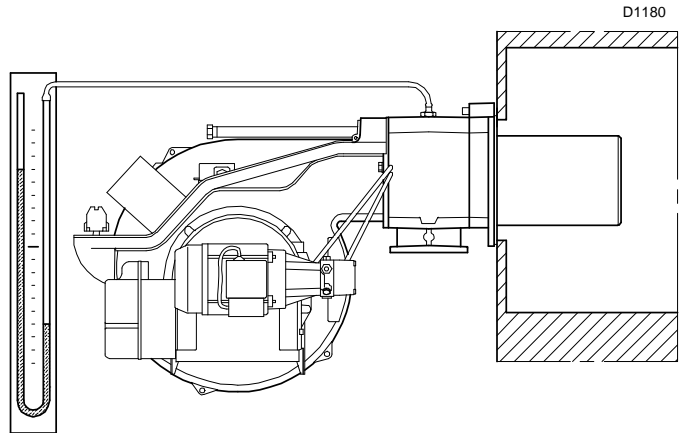

Fig. 34
- Fit a U-type pressure gauge (Fig. 34) to the gas pressure test point on the pipe coupling.
The arrival of gas to the sleeve is indicated by the U-type pressure gauge (Fig. 34).